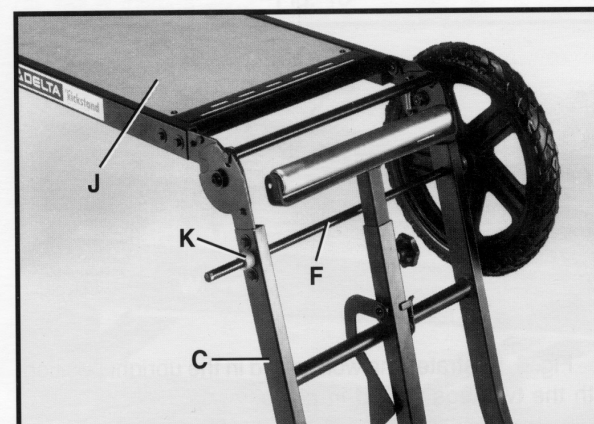

Fig. 9
6. Insert free end of axle (F) Fig. 9, through holes in leg assembly (C), as shown. **NOTE:** Wheels must be assembled to legs on end of stand where the fiber board (J) is located. Slide spacer (K) on axle against leg, as shown.